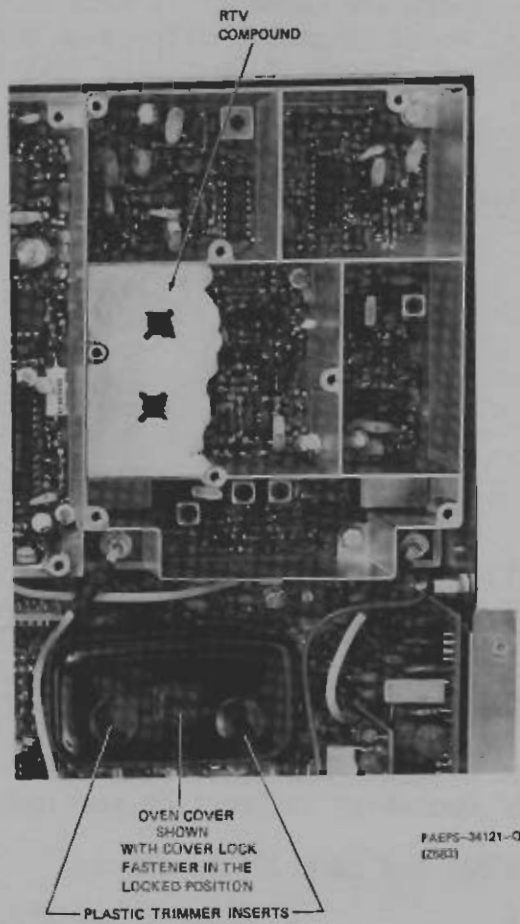
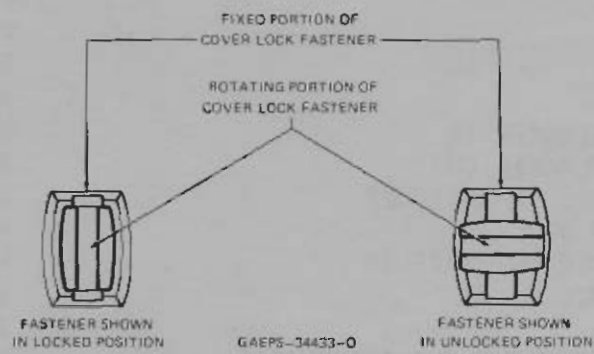

Figure 2. RTV Compound and Oven Cover Details
Figure 3. Oven Cover Lock Fastener Details
3. Add the two following paragraphs (3, 4, and Figures 2 and 3) at the end of the Maintenance section (68P81060E72-0).
3.2 It IS NOT recommended that the "S" board parts located in the VC01 area under the RTV compound (see Figure 2) be serviced. If a problem is isolated to that location it is recommended that the "S" board be replaced. However, if repairs are ABSOLUTELY necessary, the RTV compound can be removed with an X-acto™ knife (or similar tool) and a pair of tweezers. While referring to Figure 2 for part placement, cut the RTV compound and remove it with tweezers. TAKE CARE not to damage the underlying component parts.
With the rear housing removed, orient the radio so that the heat sink is on the right and the "A" board is visible (see Figure 2). The plastic trimmer inserts in the oven cover should be closer to you than the oven cover locking mechanism. To secure the oven cover to the board, turn the rotating portion of the cover lock fastener 1/4 turn in either direction. The oven cover is locked when the fixed and rotating portions of the cover lock fastener are parallel to each other (see Figure 3). The oven cover is unlocked when the fixed and rotating portions of the cover lock fastener are perpendicular to each other.